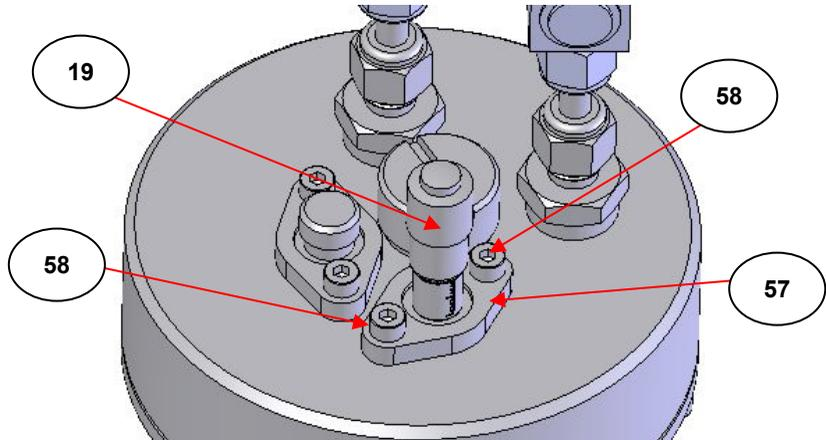

Fig 34. Micrometer Adjustment Screw Parts for Removal
For removal of the outer cylinder body assemblies (44 or 51) to gain access to the internal mirror carriage frame (48 or 54), although the procedure as described in Section 9) works for both Fixed (F) and Adjustable (A) Cells, for refitting of the body assemblies to the optical unit (1) it may be easier to **remove** the adjustable pathlength micrometer screw (19) parts from the top of an Adjustable (A) gas cell. (See Fig 34. of a C5 gas cell as an example for **all** (A) gas cells.)